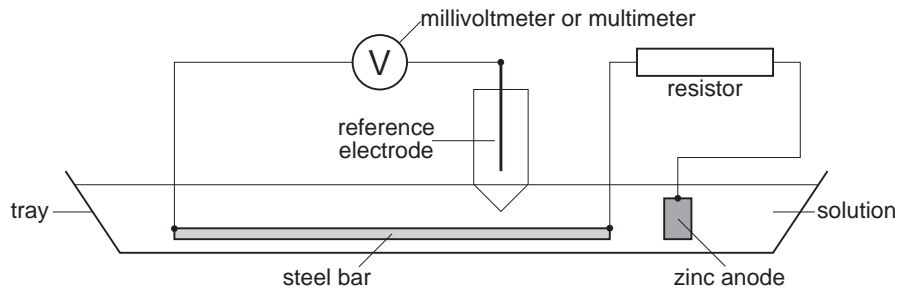

Figure 1. Cathodic protection
1. Clean your steel bar or strip and the piece of zinc with abrasive paper. Place them both into the shallow tray; make sure to keep the zinc at one end of the steel bar (see Figure 1 on the next page). Connect each of them to a length of insulated wire.
4. Now connect the steel and zinc together through the 1 ohm resistor and the millivoltmeter or multimeter between the steel and the reference electrode, as shown in Figure 1.
6. Repeat (5), but this time using the 1.5V battery and the separate steel anode (in place of the resistor and zinc anode respectively). Make sure to connect the negative terminal of the battery to the protected steel rod.